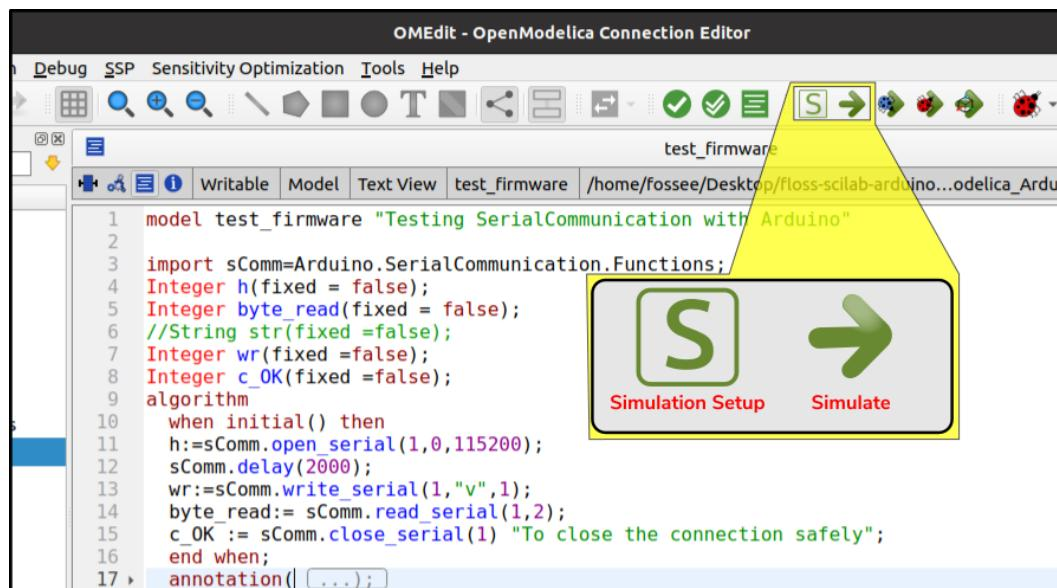
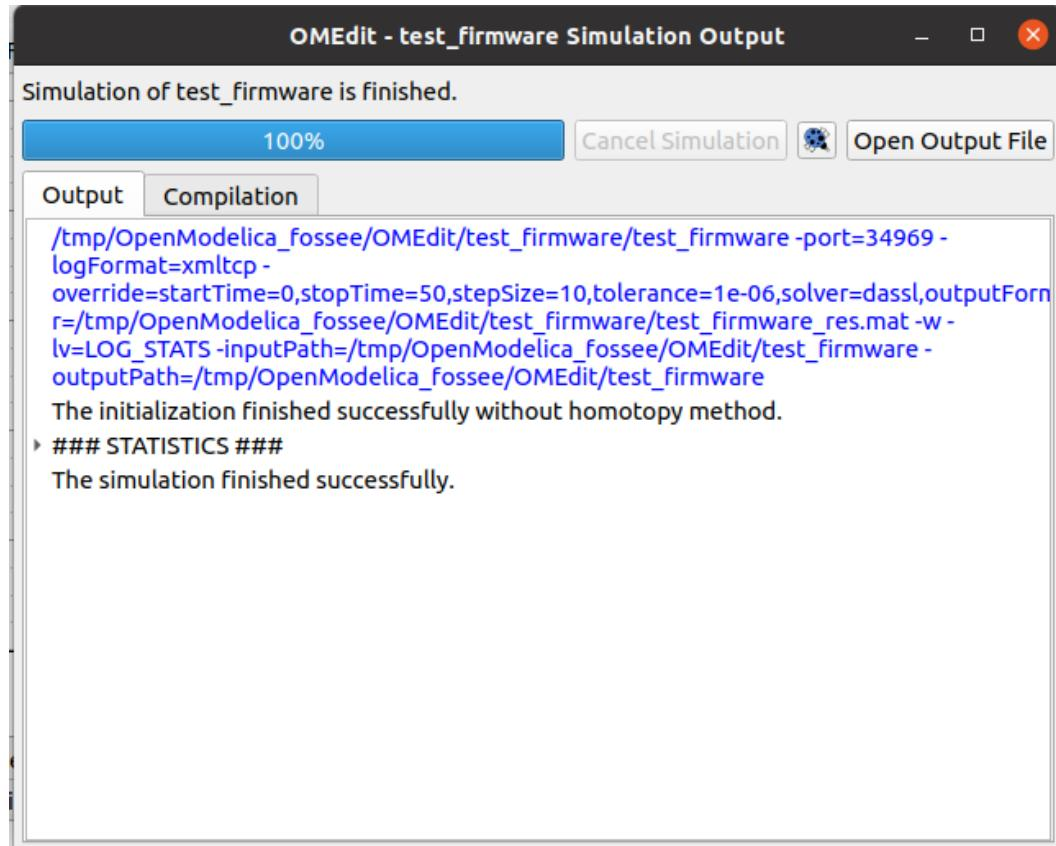

Figure 3.42: Simulating a model in OMEdit
Figure 3.43: Output window of OMEedit
Now, we will see how to simulate this model. For this, we need to ensure that OMEdit is in Modeling Perspective. Next, we will click on the green right-sided arrow, named as Simulate, as shown in Fig. 3.42. When we click on Simulate, OMEdit will first compile the model and then, it will simulate the model for the time specified in the model itself. As OMEdit provides an elegant user interface for simulating the models, it will open an output window the moment you click on Simulate. Fig. 3.43 shows the output window after the simulation of our model is finished. Also, we can observe that the OMEdit is now in Plotting Perspective.
As shown in Fig. 3.43, OMEdit displays the message that "The Simulation fin-
**OpenModelica Code 3.1** An OpenModelica code/model to check whether the firmware is properly installed or not. Available at `Origin/tools/openmodelica/windows/test_firmware.mo`, see Footnote 2 on page 2. Locate this file inside OpenModelica-Arduino toolbox, as explained in Sec. ???. Simulate this code/-model by following the steps given in Sec. 3.6.3. If the simulation is successful, you should expect an output window in OMEdit as shown in Fig. 3.43.